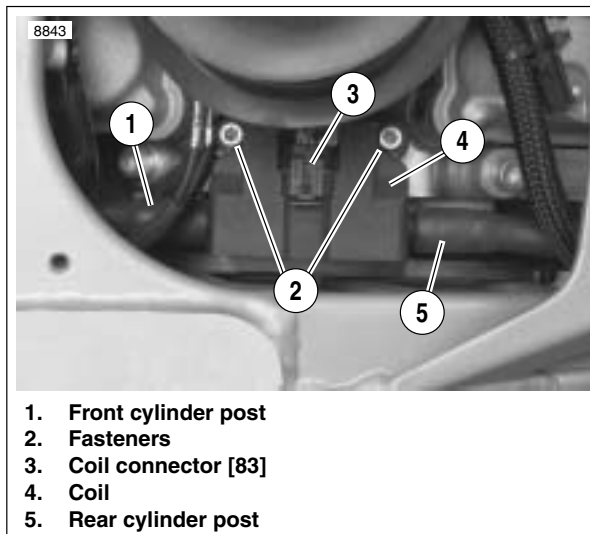

Figure 4-72. Ignition Coil Location
4. See Figure 4-72. Disconnect the spark plug cables from the coil plug posts (1, 5).
5. Detach connector (3) [83].
6. Remove coil fasteners (2).
2. See Figure 4-72. Attach coil to frame with fasteners (2). Tighten to 120-144 **in-lbs** (13.6-16.3 Nm).
4. Attach connector (3) [83].